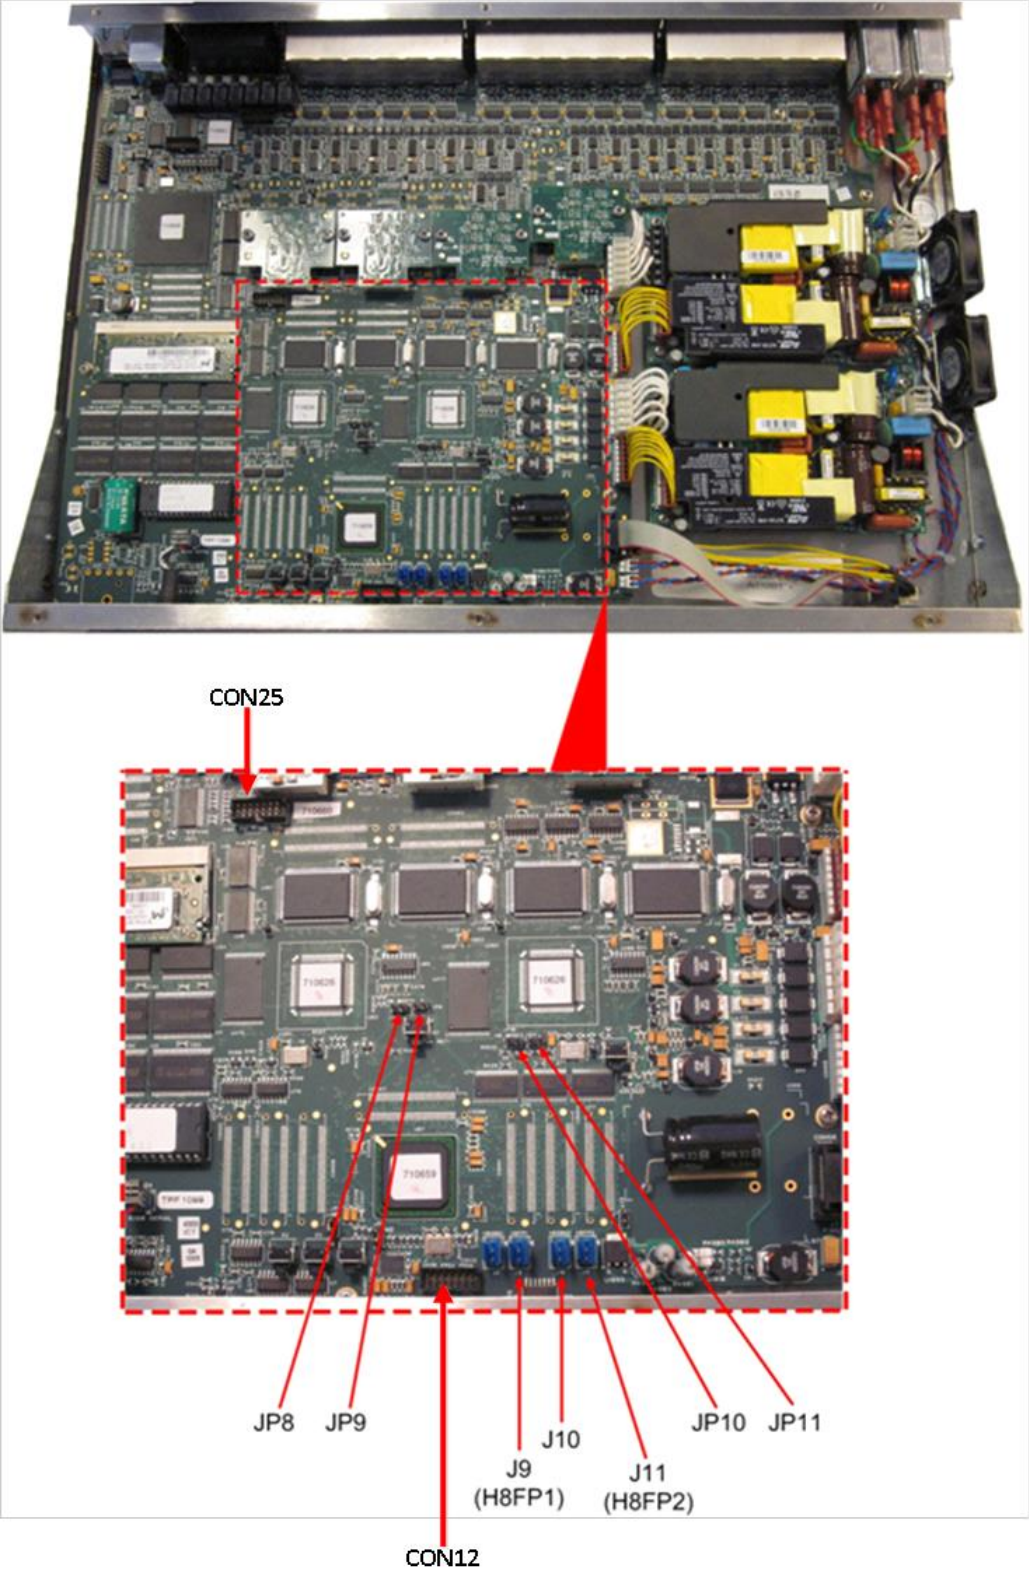

Figure 6-14: Eclipse HX-PiCo main board
For the location of connectors, jumpers and reset switch positions on the Eclipse HX-PiCo, see **Figure 6-14: Eclipse HX-PiCo main board**.
**Tip:** For the location of CON12 and CON25, see **Figure 6-14: Eclipse HX-PiCo main board**.